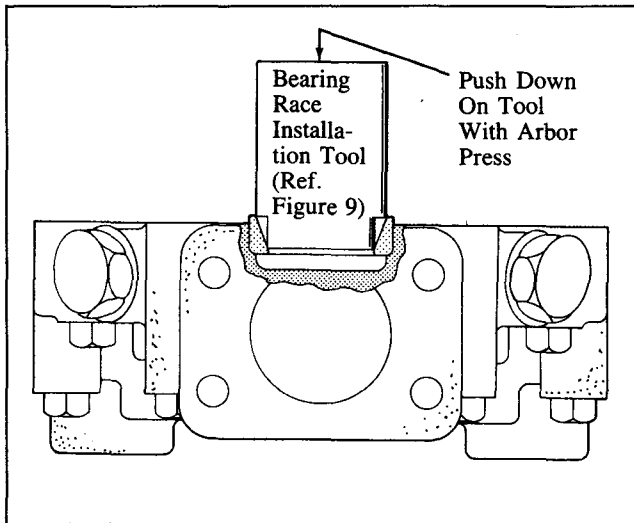

Figure 14. Installation of Bearing Race (48) into Valve Block (33).
2. Install retaining ring (75) into the second groove within the housing bore next to the shaft seal. Use Truarc pliers for this operation.
3. If bearing race (74) was removed from housing (77) install a new bearing race into housing with an arbor press. Make sure the bearing race is face up to accommodate the matching roller bearing. Press the bearing race until it rests at bottom of housing. Use the bearing race tool as described in Figure 14. After the bearing race is installed, apply a liberal amount of petroleum jelly to the matching roller bearing. Install the roller bearing into the bearing race.
If bearing race (48) was removed from valve block (33), install a new bearing race into valve block. Refer to Figure 14 for instructions.
e. Position valve block (33) on the two studs and carefully slide the valve block against housing gasket (35). Make sure mounting pins (44) engage properly into valve block.
f. Apply a small amount of hydraulic fluid to screw (32) threads. Secure the valve block (33) to housing (77) with six screws (32). Tighten the screws to 50-55 Nm (37-41 lb. ft.).
g. Set the pump on the work bench so that shaft (68) is straight up (vertical). Push down on shaft to insure bearings (48, 74) are seated.
h. Place a dial indicator at end of shaft (68). Set the dial indicator to 0.00.
i. Place vice grip pliers underneath shaft spline and lift up on shaft (68).
j. Observe the dial indicator reading to determine the amount of shaft movement. For example: If dial indicator needle reads 0.040, a 0.036-0.039 shim (49) thickness must be added to end of shaft to obtain a 0.001-0.004 shaft end play (0.040 minus 0.036-0.039 equals 0.001-0.004). Repeat this step two times to insure a proper measurement.
k. Remove valve block (33) from housing (77). Remove tail bearing (48) from end of shaft (68).
l. Install shims (49) to end of shaft (68) according to the measurement obtained in step 'j'.
m. Install tail bearing (48) on end of shaft (68) next to shims (49).